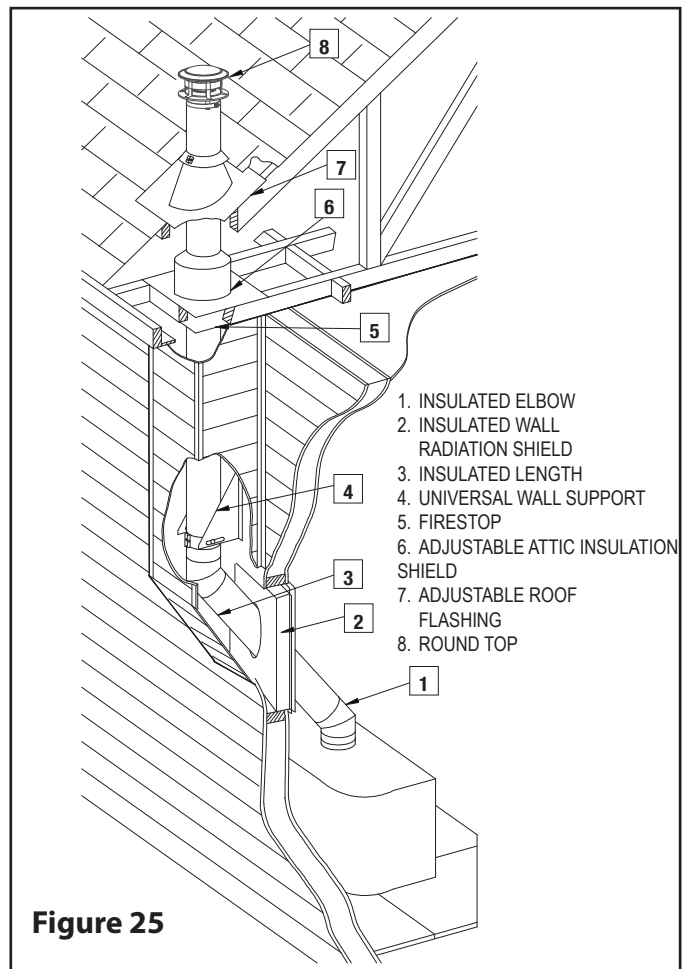

Figure 25
1. Assemble the two (2) portions of the Universal Collar as described above under the Universal Collar and Table 8 and Fig. A.
4. Tighten the collar around the chimney. Attach the support brackets to the wall using (8) 3" nails or (8) #10 x 1-1/4" wood screws.
- For more information, refer to page 20 and Figure 25.
If you do install an exterior chimney, we recommend that you enclose it using an insulated enclosure (see Figure 25 for visual).
- Step 1. Refer to Table 8, Figures A and C on pages 17 and 18 for more information. Refer to Figure 25 as visual reference.
- Step 3. Attach the support brackets to the wall using (8) 3" nails or (8) N°. 10 x 1-1/4" wood screws.